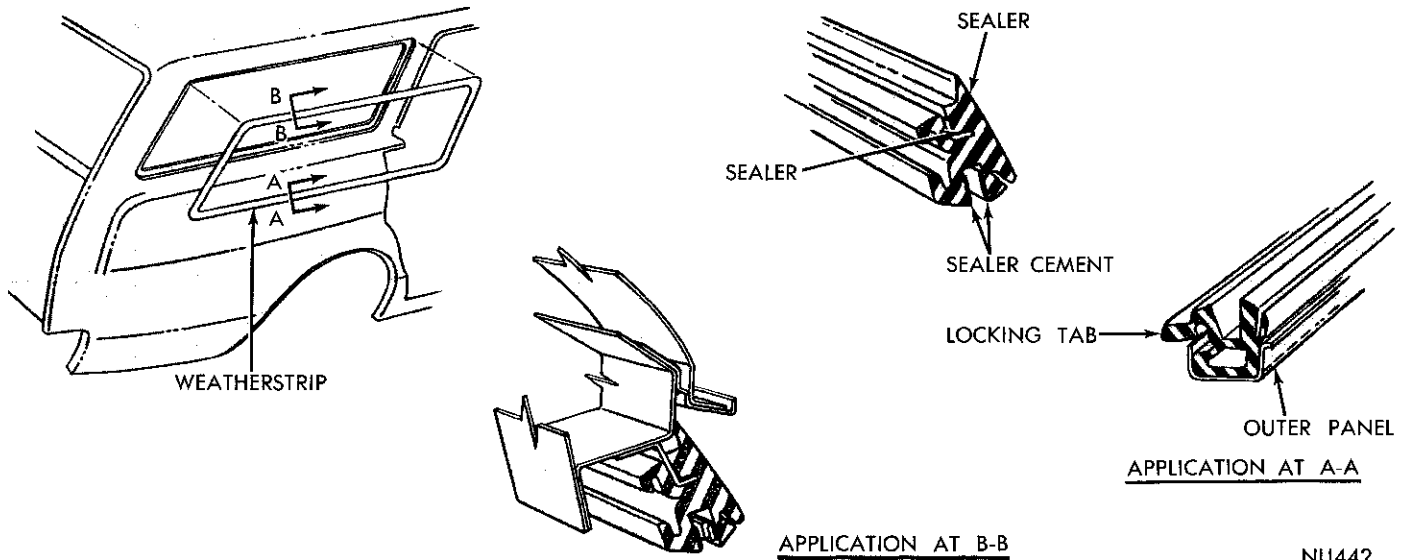

Fig. 81—Weatherstrip Replacement
- (2) Apply a bead of sealer, starting at front and top sections of weatherstrip (Fig. 81).
- (3) Apply a small bead of cement to each lip of glass groove, completely around weatherstrip.
- (4) Position weatherstrip on fence with locking edges facing inboard.
- (5) From inside of vehicle, insert bottom of glass